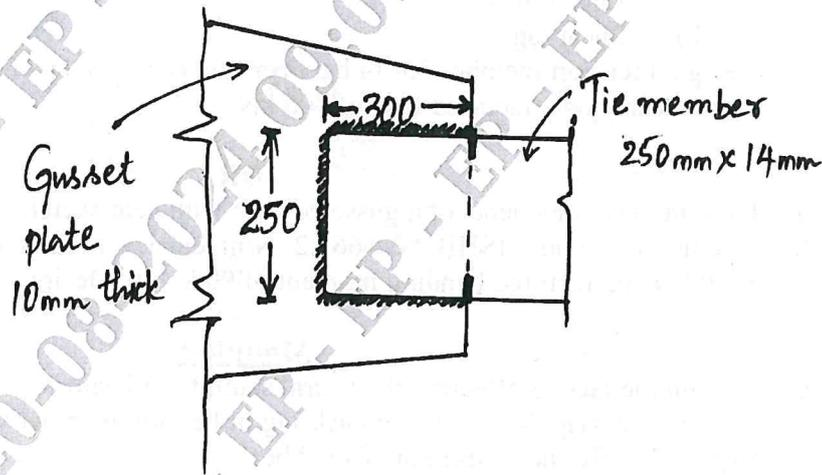

Fig. Q3 (c)
c. A tie member in a truss girder is 250mm×14mm in size. It is welded to a 10 mm thick gusset plate by a fillet weld. The overlap of the member is 300 mm and the weld size is 6 mm. Determine the design strength of the joint, if the welding is done as shown in Fig. Q3 (c). What is the increase in strength of the joint, if welding is done allround. Assume shop welding. (08 Marks)